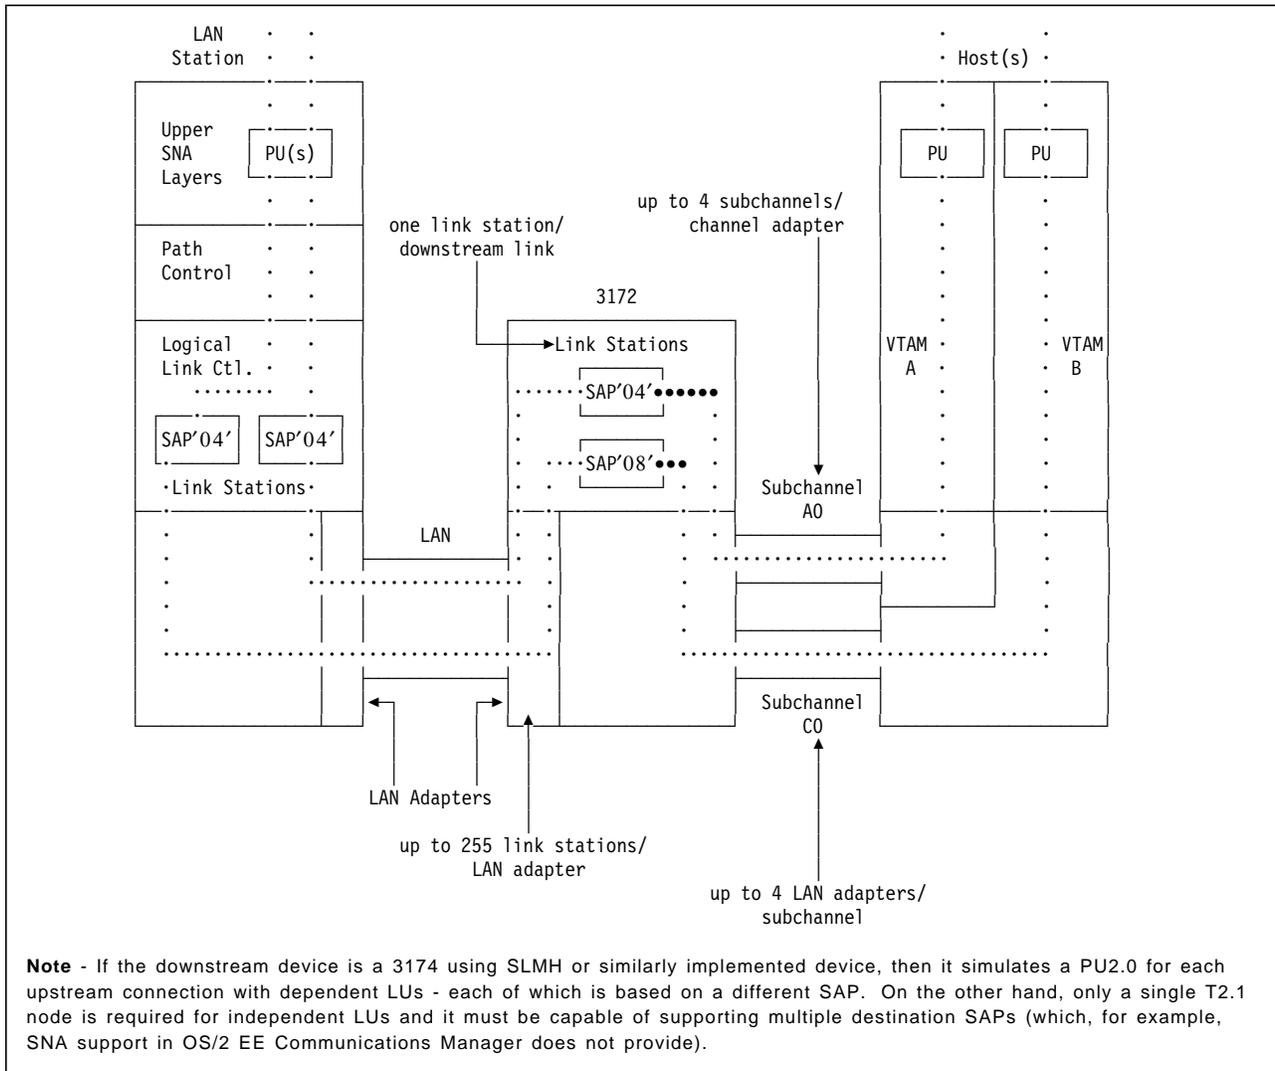

Figure 4. 3172 SNA Support - Logical View
To VTAM the 3172 is transparent; that is, in SNA terms it is not addressable. It is not a physical unit (PU) like a 3745 or a 3174. How does the host establish a link to the 3172? Please examine Figure 4 on page 22.